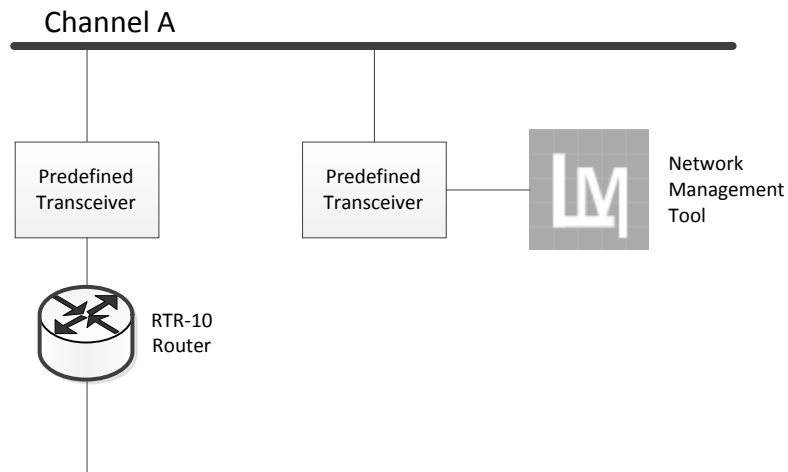

Figure 28. Configuring Side B
3. Attach a network management tool, such as OpenLNS CT, with a compatible predefined transceiver to Channel A as shown in **Figure 28**.